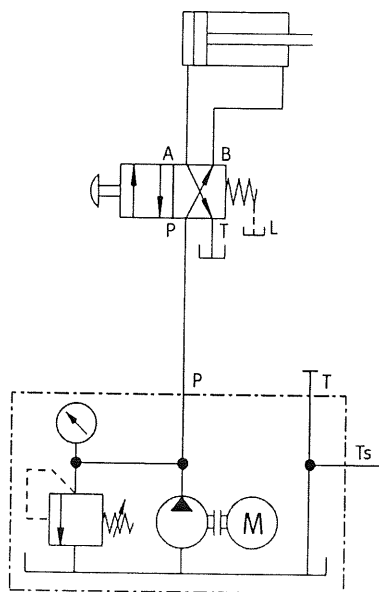

Figure 6
g) Based on Figure 6, describe the operation of the hydraulic circuit. (4 marks)